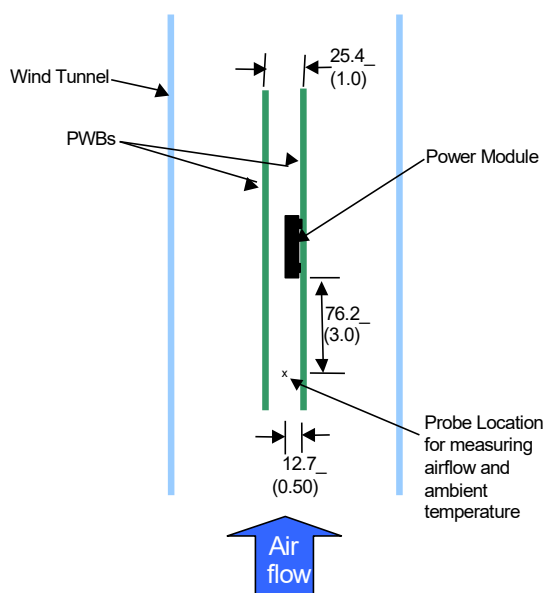
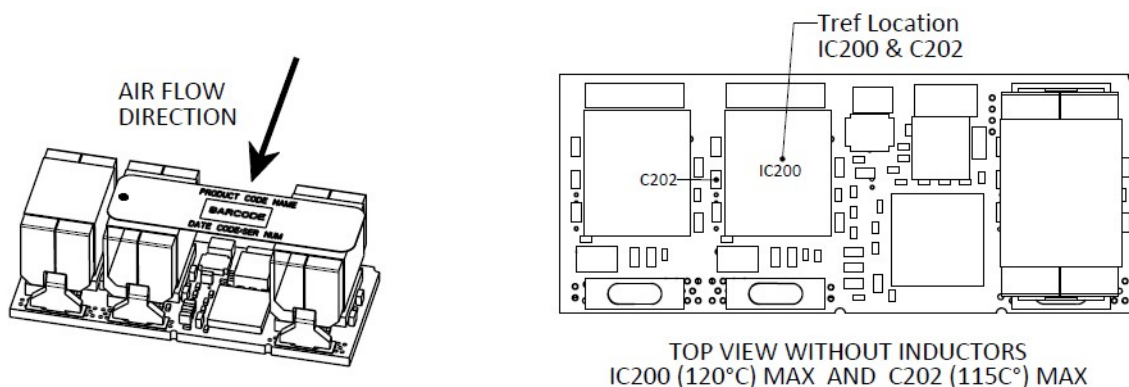

Figure 34. Thermal Test Setup.
Figure 35. Preferred airflow direction and the location of the thermal reference points
Power modules operate in a variety of thermal environments; however, sufficient cooling should always be provided to help ensure reliable operation. Considerations include ambient temperature, airflow, module power dissipation, and the need for increased reliability. A reduction in the operating temperature of the module will result in an increase in reliability. The thermal data presented here is based on physical measurements taken in a wind tunnel. The test set-up is shown in Figure 34. The preferred airflow direction for cooling the module and the thermal reference points, Tref used in the specifications are shown in Figure 35. For reliable operation the temperatures at these points should not exceed 120°C (IC300) and 115°C (C202). The output power of the module should not exceed the rated power of the module ( $V_{o,set} \times I_{o,max}$ ). Please refer to the Application Note “Thermal Characterization Process for Open-Frame Board-Mounted Power Modules” for a detailed discussion of thermal aspects including maximum device temperatures. Increased airflow over the module enhances the heat transfer via convection. The thermal derating of figures 2, 8, 14 and 20 show the maximum output current that can be delivered by each module in the indicated orientation without exceeding the maximum Tref temperature versus local ambient temperature (TA) for several air flow conditions. The thermal derating curves were generated using a 12 layer evaluation board with 3oz copper in inner layers and 2 oz in outer layers.